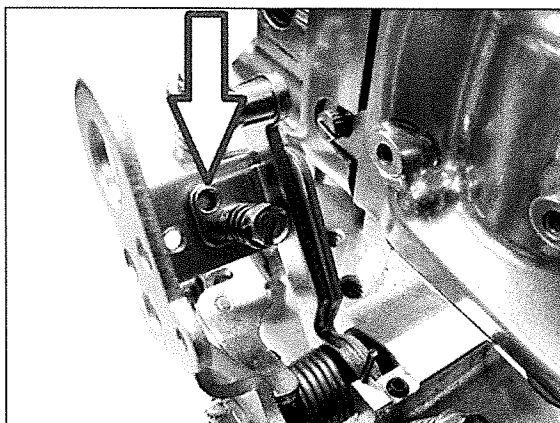

Figure 4
1. Unlock transmission kickdown lever by removing screw and spring and relocating to additional hole in the transmission kickdown lever (**Figure 4**).